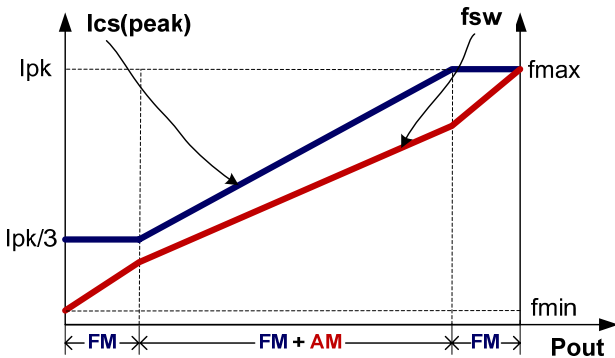

Fig.4
To meet the tight requirement of averaged system efficiency and no load power consumption, a hybrid of frequency modulation (FM) and amplitude modulation (AM) is adopted in DP2525 which is shown in the Fig 4.